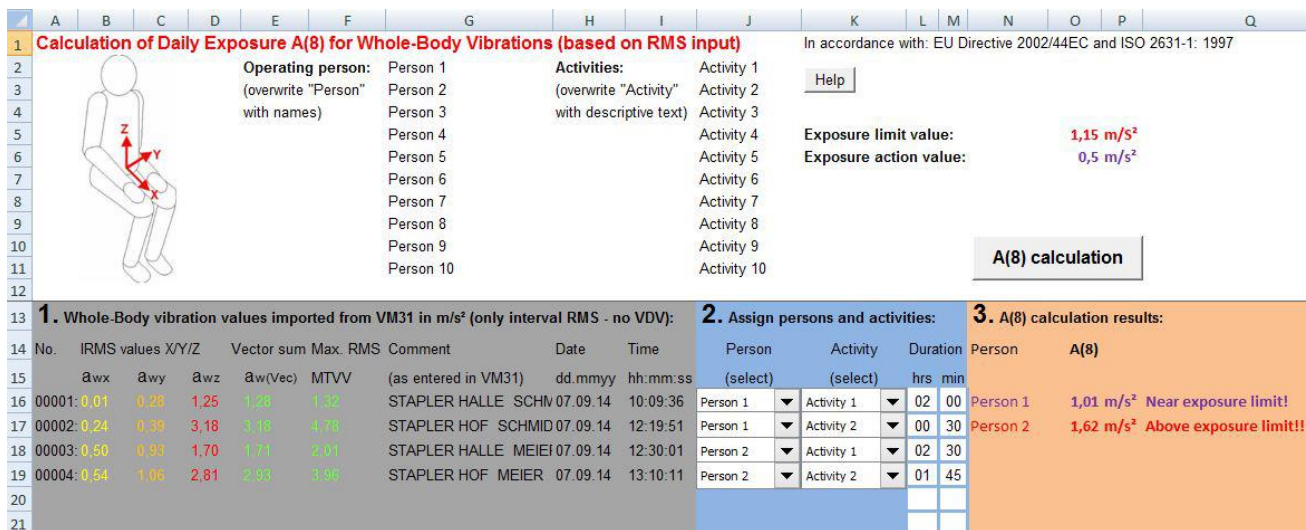

Figure 39: Daily exposure calculation in Excel
Click "A(8) calculation" or, in the case of VDV, "Daily exposure calculation" to calculate the vibration exposure (Figure 39).